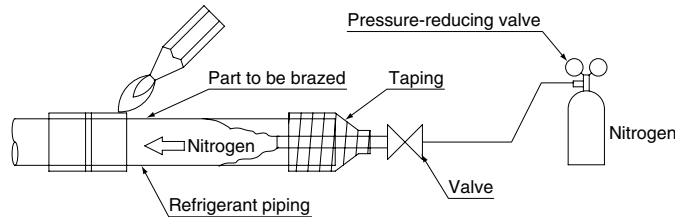

Fig. 5
- When brazing refrigerant piping, begin working after replacing the nitrogen (\*1) or perform brazing while nitrogen is flowing in the refrigerant piping (\*2) (Refer to Fig. 5), and at the end made the indoor unit and BS unit flare or flange connections.